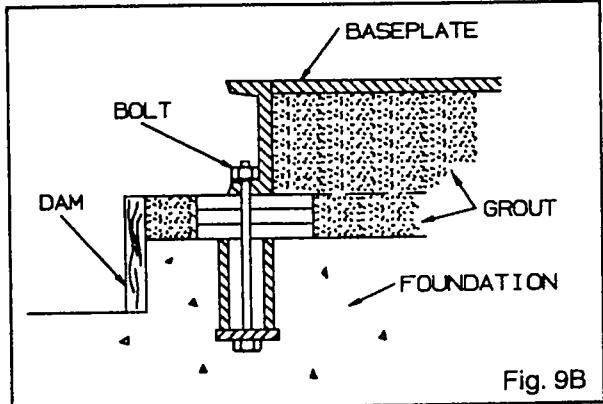

Fig. 9B
5. Fill remainder of baseplate with grout. Remove air as before (Fig. 9B).